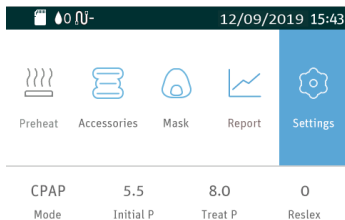
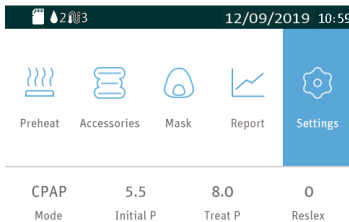
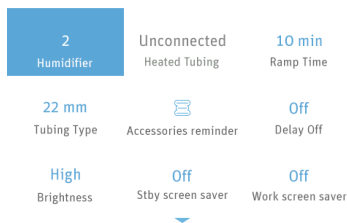

Fig. 15-1
Fig. 15-3
Fig. 15-4
(1) Insert the Cellular Module into the device, and turn on the device. The device screen displays the Main Screen shown in Fig. 15-1.
(1) Insert the WiFi kit into the device, and turn on the device. The device screen displays the Main Screen shown in Fig. 15-1. Turn **the Knob**  until the cursor is on the icon , and the screen displays the Initial Setup Interface shown in Fig. 15-3. Press **the Knob** , and the first option on the Initial Setup Interface turns blue, as shown in Fig. 15-4.